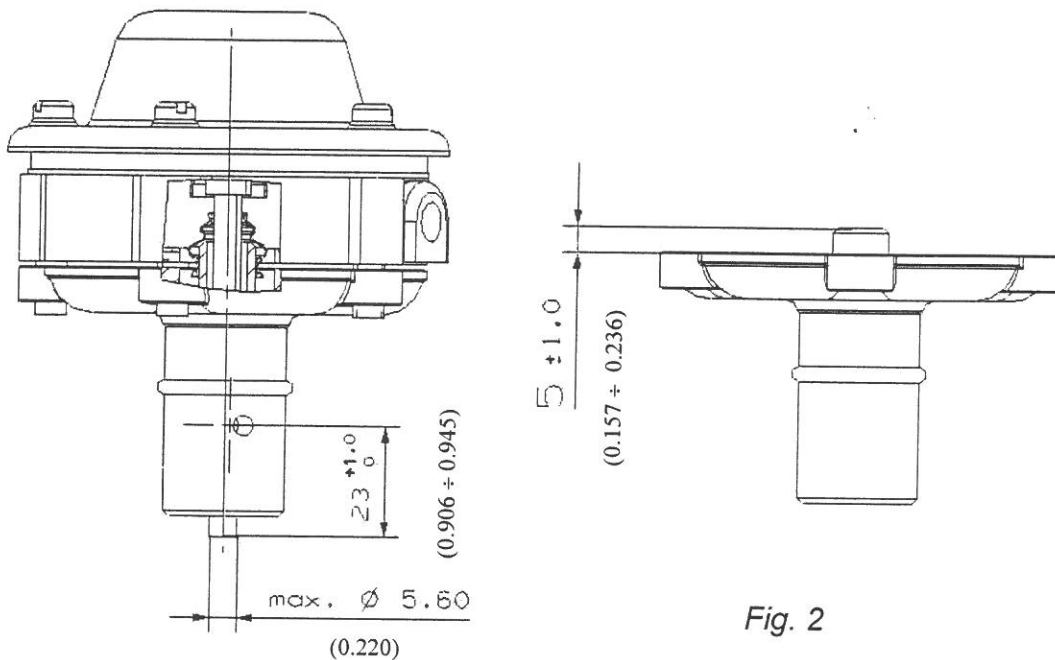

Fig. 2
2. Measure the distance between the lifter and the axis of the pump casing bolt hole (26.21.0157). This distance shall be 23^{+1} mm (0,905-0,945 in) /Fig. 2/. If this dimension is higher, the lifter shall be ground to obtain the dimension from 23 mm (0,905 in) to 24 mm (0.945).
4. Check the height of the seating element of the rubber bellow /see Fig. 2/. This element shall be 5 ± 1 (0,157 – 0,236 in). Correct it by milling or filing if necessary.
6. Measure the lifter thickness. It shall be 5.35 ± 0.05 mm (0,209 ± 0,213) of dia. in the area of contacting with the bellow (26.11.0402) at "L" distance /see Fig. 3./ and max. of 5.60 mm (0,22) of dia. in remaining areas /Fig. 2/. Grind the lifter or replace with a new one if necessary.